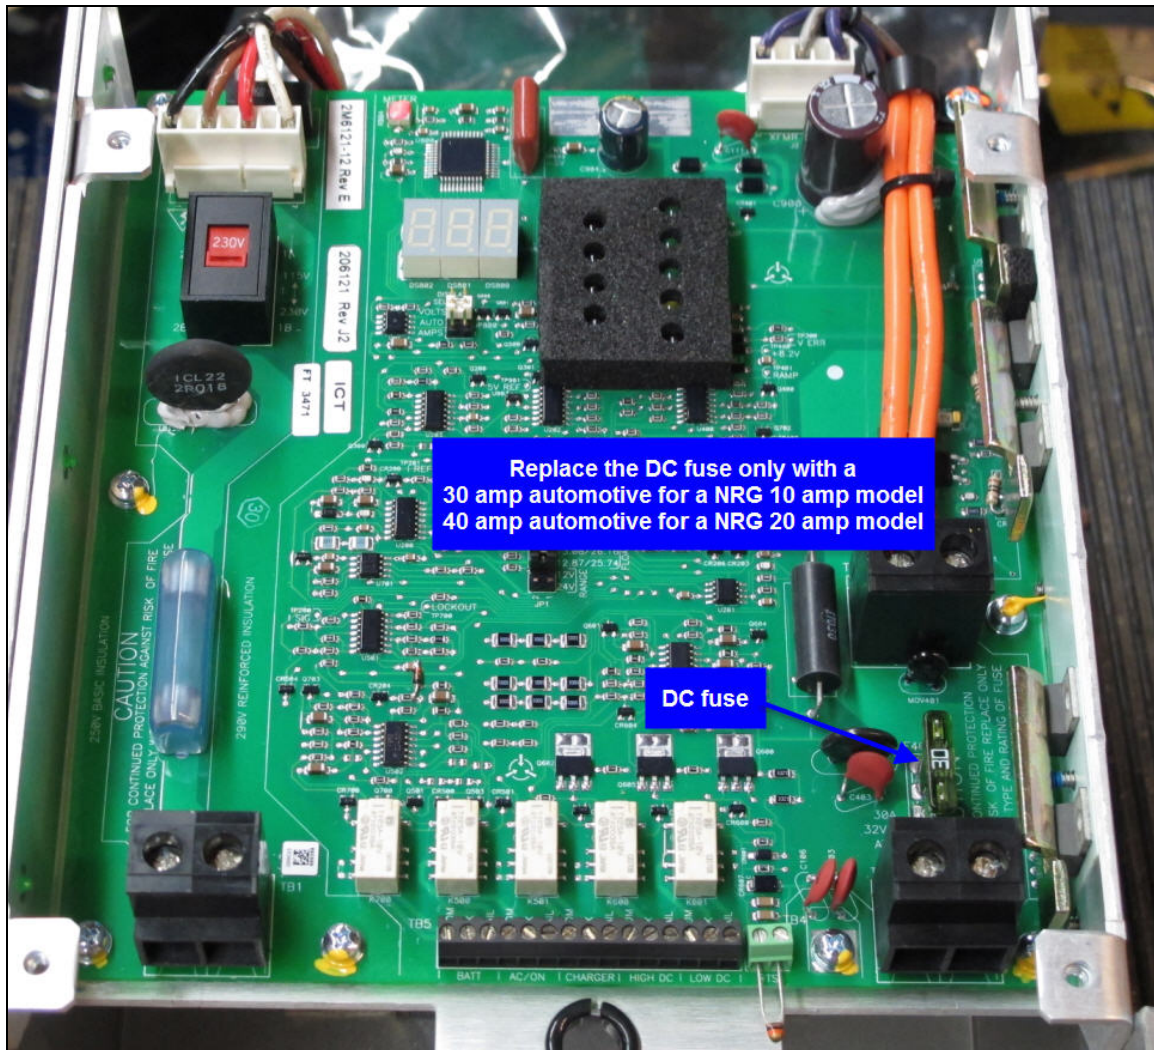

Figure 7
2. Battery Fault Possible Cause 2: Open DC fuse (see Figure 7)